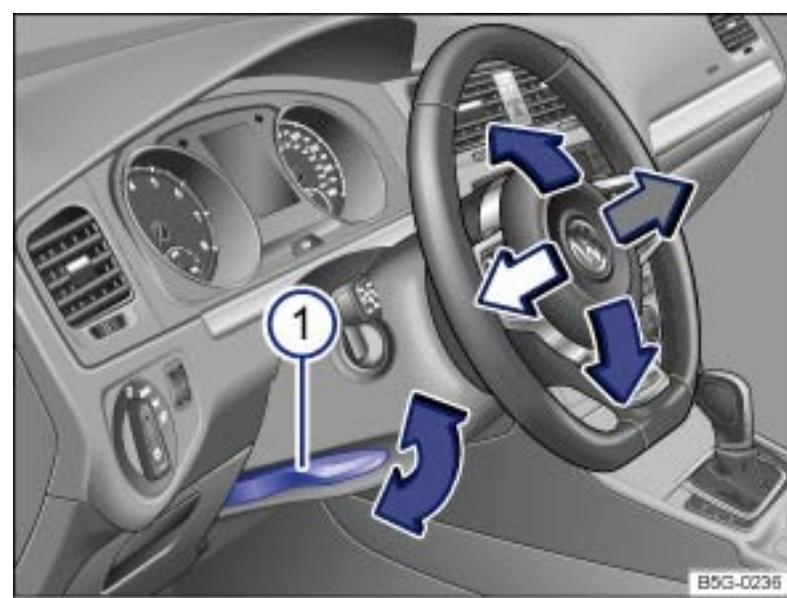

Fig. 47 Manual adjustment for the steering wheel position.
- ▶ Push down on the lever → Fig. 47 ① .
- Always pull the lever → Fig. 47 ① firmly upward after adjusting the steering column so that the steering wheel does not change position suddenly while the vehicle is moving.